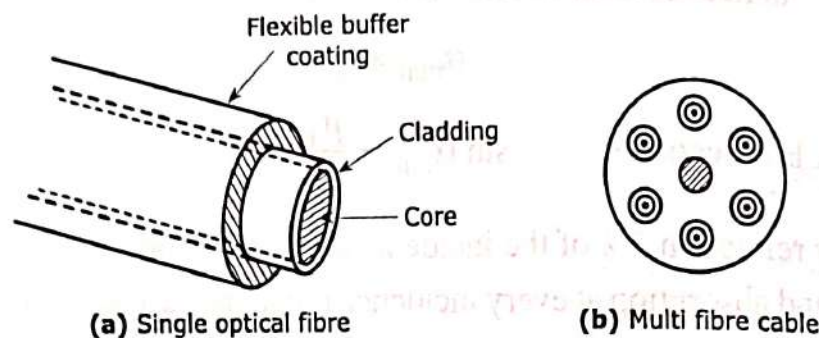

Fig. 2.21
- ✦ The outermost region of an optical fibre is called the **buffer coating**. It is a plastic coating given to the cladding for extra protection. The buffer is elastic in nature and prevents abrasions as shown in Fig. 2.21.